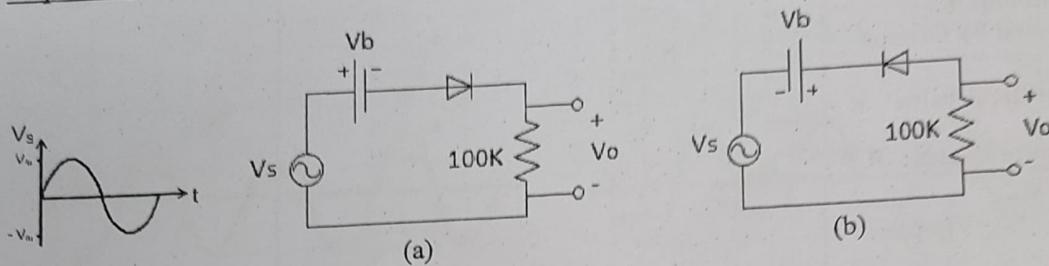
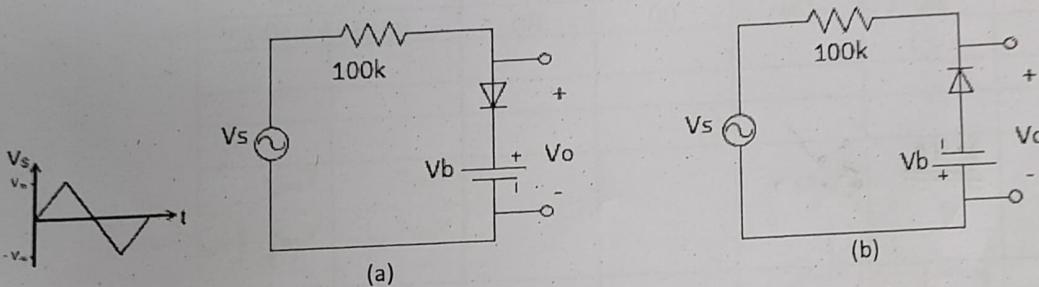
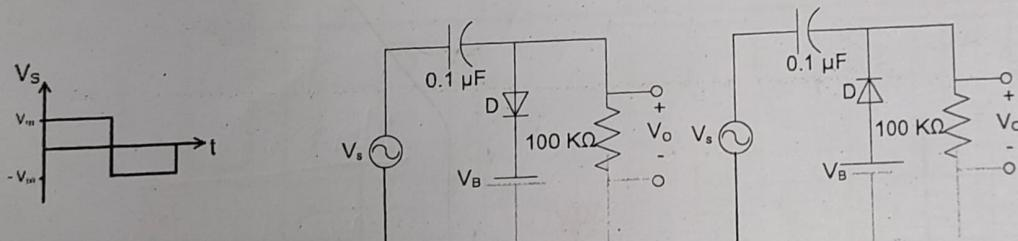

Figure 4.6: Series Clipper Circuit
Figure 4.7: Parallel Clipper Circuits
Figure 4.8: Clamper circuit
1. Connect the circuit as shown in the figure 4.6.
Input-output Fig 4.6 (a)
Input-output Fig 4.6 (b)
2. For Fig 4.6(a &b), Fig4.7 (a & b) and Fig 4.8 (a & b) what change did you observe in the output voltage, In procedure-4? Explain the reason behind such a change.
3. For Fig 4.6(a &b), Fig4.7 (a & b) and Fig 4.8 (a & b) what change did you observe in the output voltage, In procedure-5? Explain the reason behind such a change.
Input fig 4.7 (a)